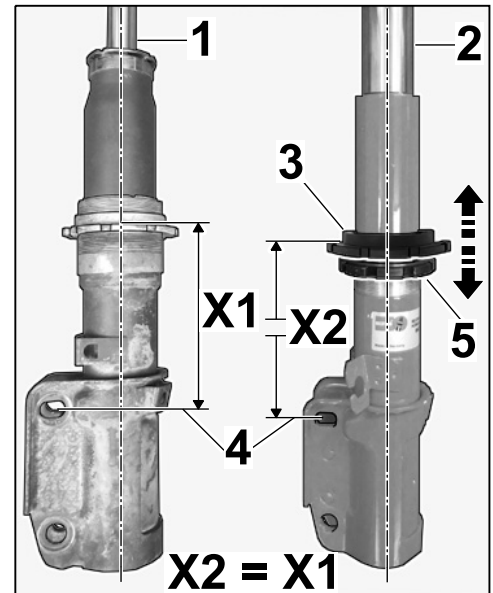

Figure 4
2.2 Adjust dimension X2 (top of adjusting nut/mounting point for shock absorber ⇒ *Figure 4 -X2-*) in accordance with dimension X1 (standard spring strut).
2.3 Secure lock nut (⇒ *Figure 4 -5-*) to adjusting nut (⇒ *Figure 4 -3-*).